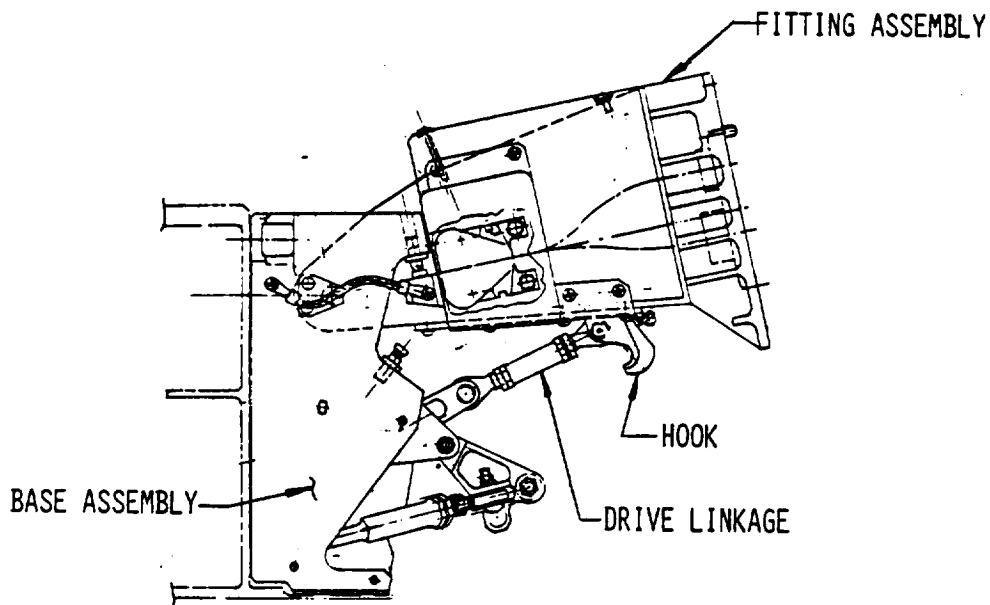

Figure 4. Manipulator Positioning Mechanism Shoulder Assembly
- B. Three Pedestal Assemblies - support of the arm in stowed position and provide latch and unlatch capabilities. (See Figure 4).